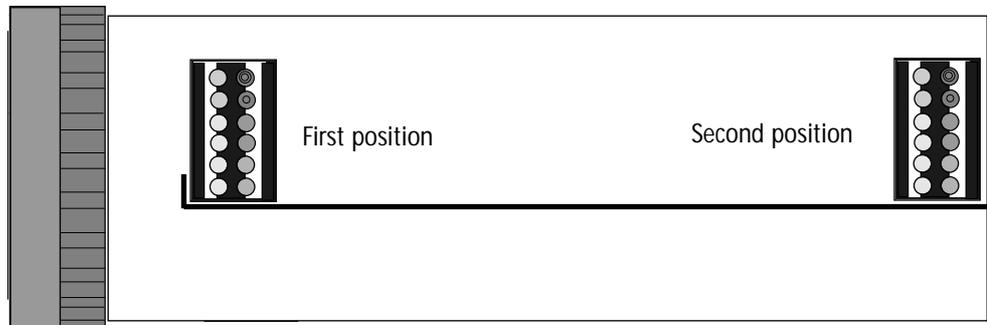

Fig. 1
- 5 • Mount the UGRA test target firmly onto the drum approximately 1 cm away from the zero point (position 1, fig. 1).
- 7 • Move the UGRA test target to the opposite end of the drum approximately 16 cm away from the zero position (position 2, fig. 1) and repeat the focus sharpness test (section 5•15 steps 5-15).